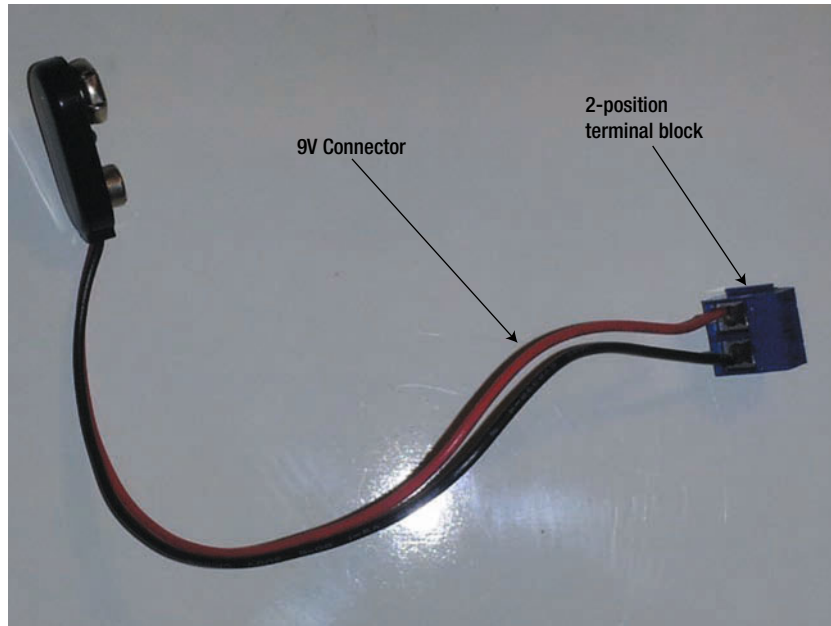
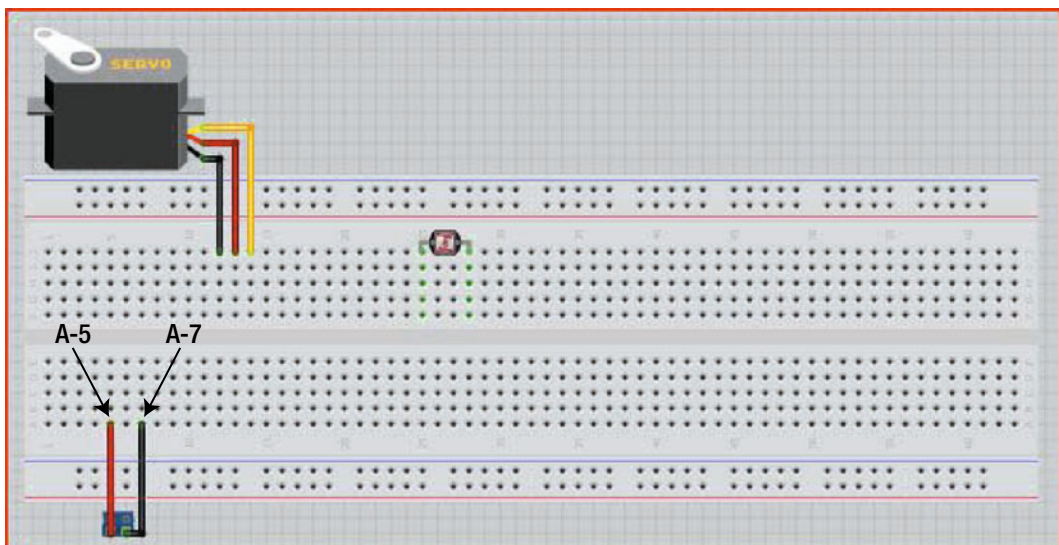

Figure 27-5. Attach the battery connect to the two-position terminal block
Figure 27-6. Attach the two-position terminal block to the breadboard
4. Now insert the wires of the battery connector into the two-position terminal block. (Take a look at Figure 27-6 to see how we did it.) Also, make certain to connect the jumper wires for +6V to the row that matches the red wire, and the jumper wires for ground to the row that matches the black wire. Figure 27-5 illustrates this process.
5. Push the two-position terminal block into the breadboard. Power (red wire) should be connected to A-5 and ground (black wire) should be connected to A-7. Figure 27-6 illustrates this process.